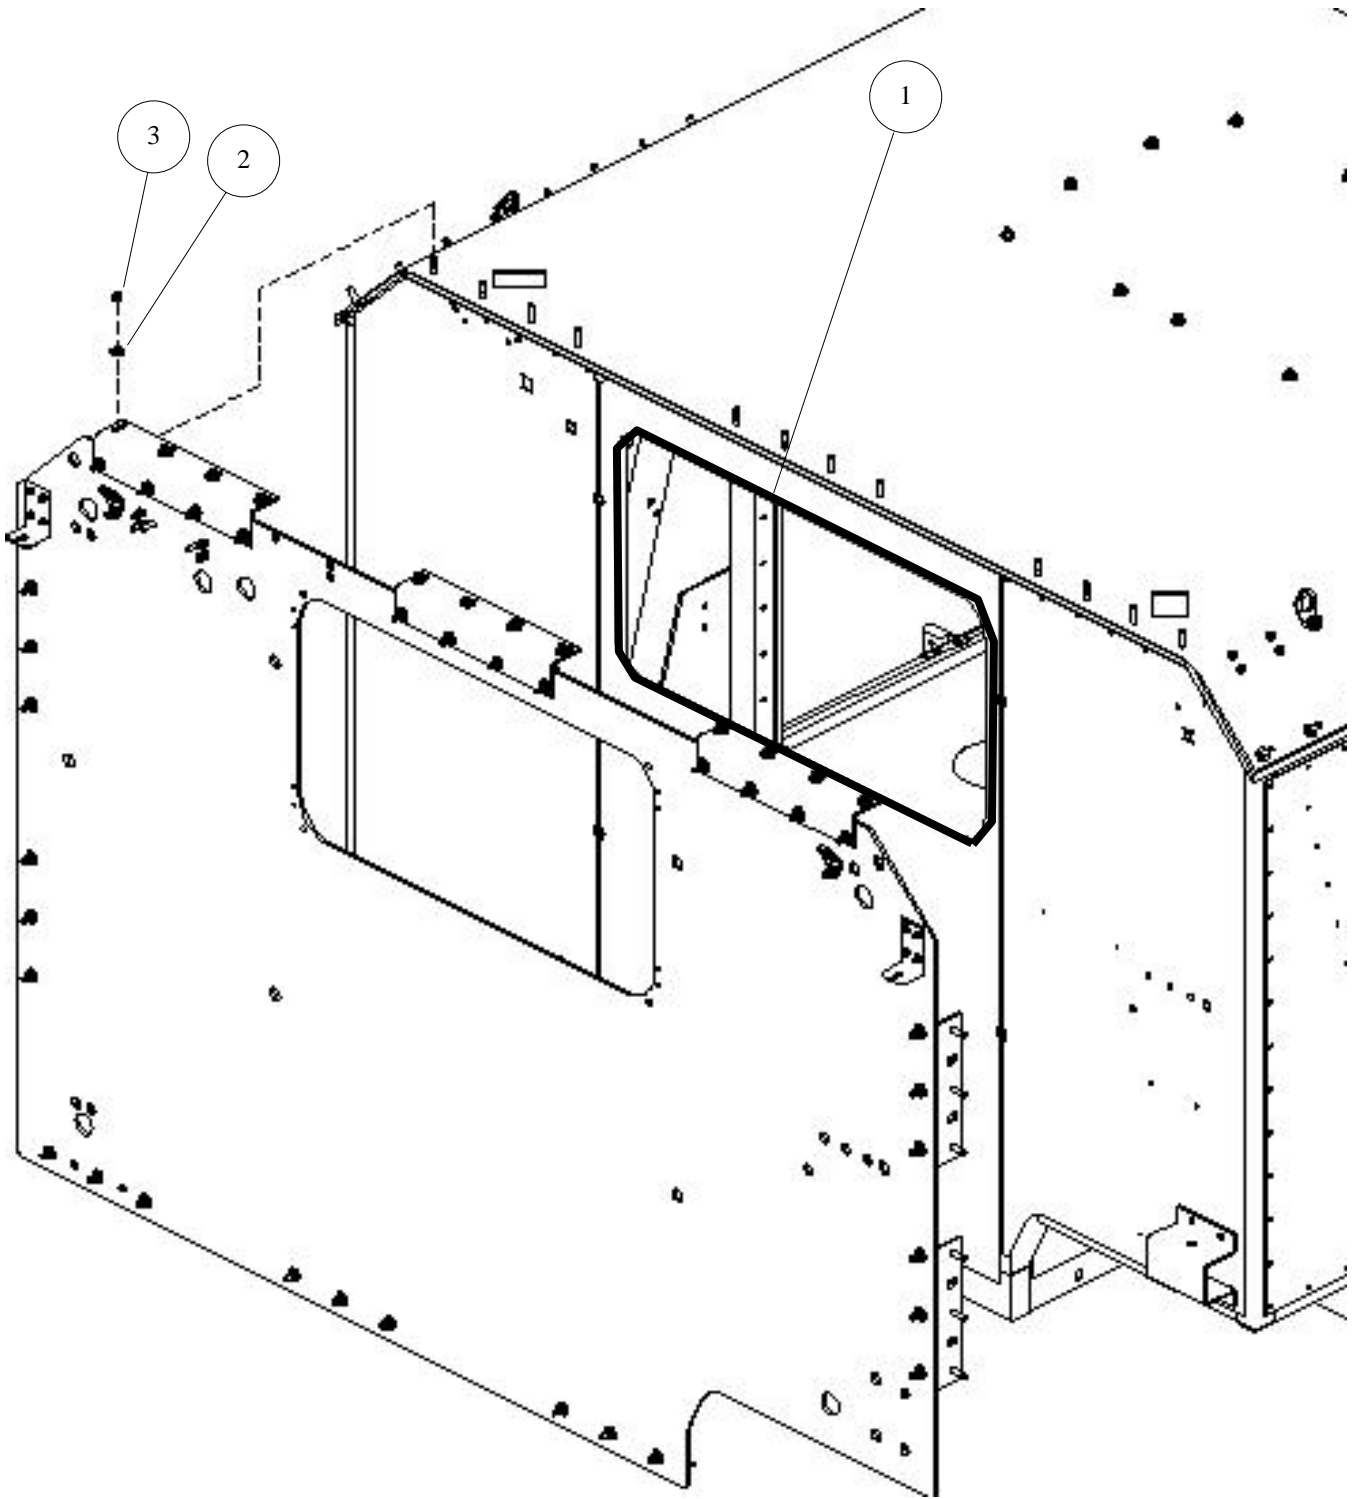

Figure 3-13. Rear Panel Installation.
2. Install rear panel as follows (see Figure 3-13):